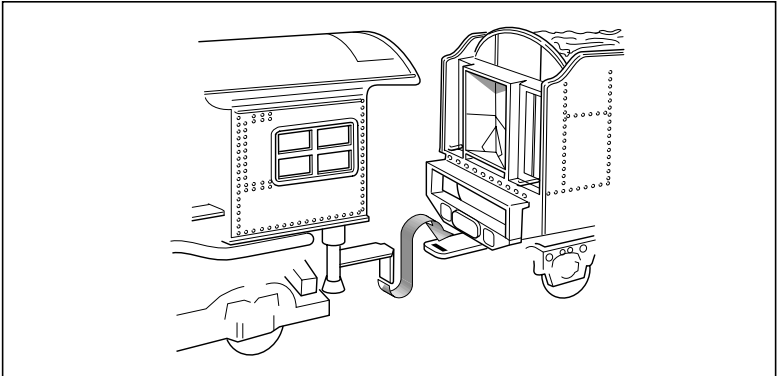

Figure 7. Drawbar connection
- **With track power OFF**, connect the drawbar between the locomotive and tender. See Figure 7.